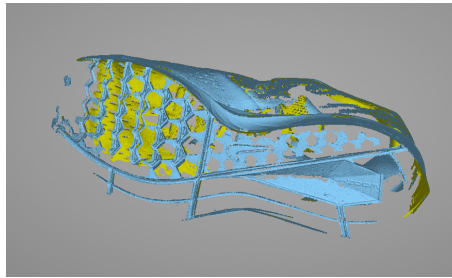
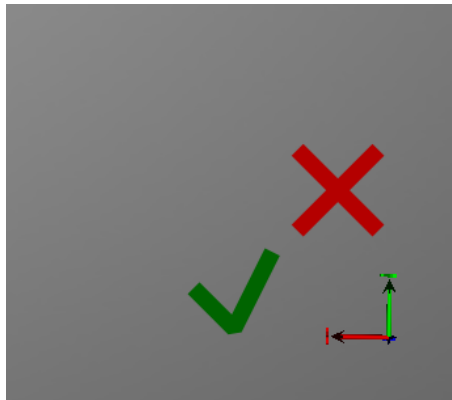

Figure 19: Final image when scanned on brightness level 2.
Figure 20: Approve or deny the initial model
14. At the end of the scan, the scan will center on the screen (Figure 19) and the technician will either have to approve or deny the scan (Figure 20). The scan can be maneuvered to look over all points. Keep in mind that brightness level two will not capture the majority of the shoe. If the scan needs to be repeated, select the red "X". If everything is satisfactory, select the green check.